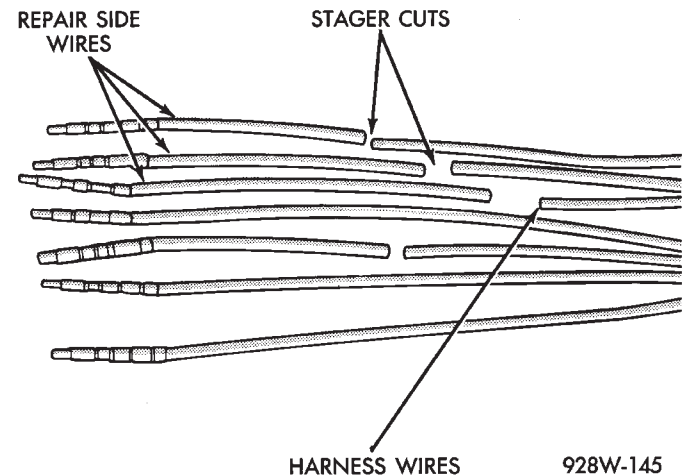

Fig. 16 Stagger Cutting Wires
(1) Disconnect battery.
(2) Disconnect the connector (that is to be repaired) from its mating half/component.
(3) Cut off the existing wire connector directly behind the insulator. Remove six inches of tape from the harness.
(4) Stagger cut all wires on the harness side at 1/2 inch intervals (Fig. 16).
(5) Remove 1 inch of insulation from each wire on the harness side.
(6) Stagger cut the matching wires on the repair connector assembly in the opposite order as was done on the harness side of the repair. Allow extra length for soldered connections. Check that the overall length is the same as the original (Fig. 16).